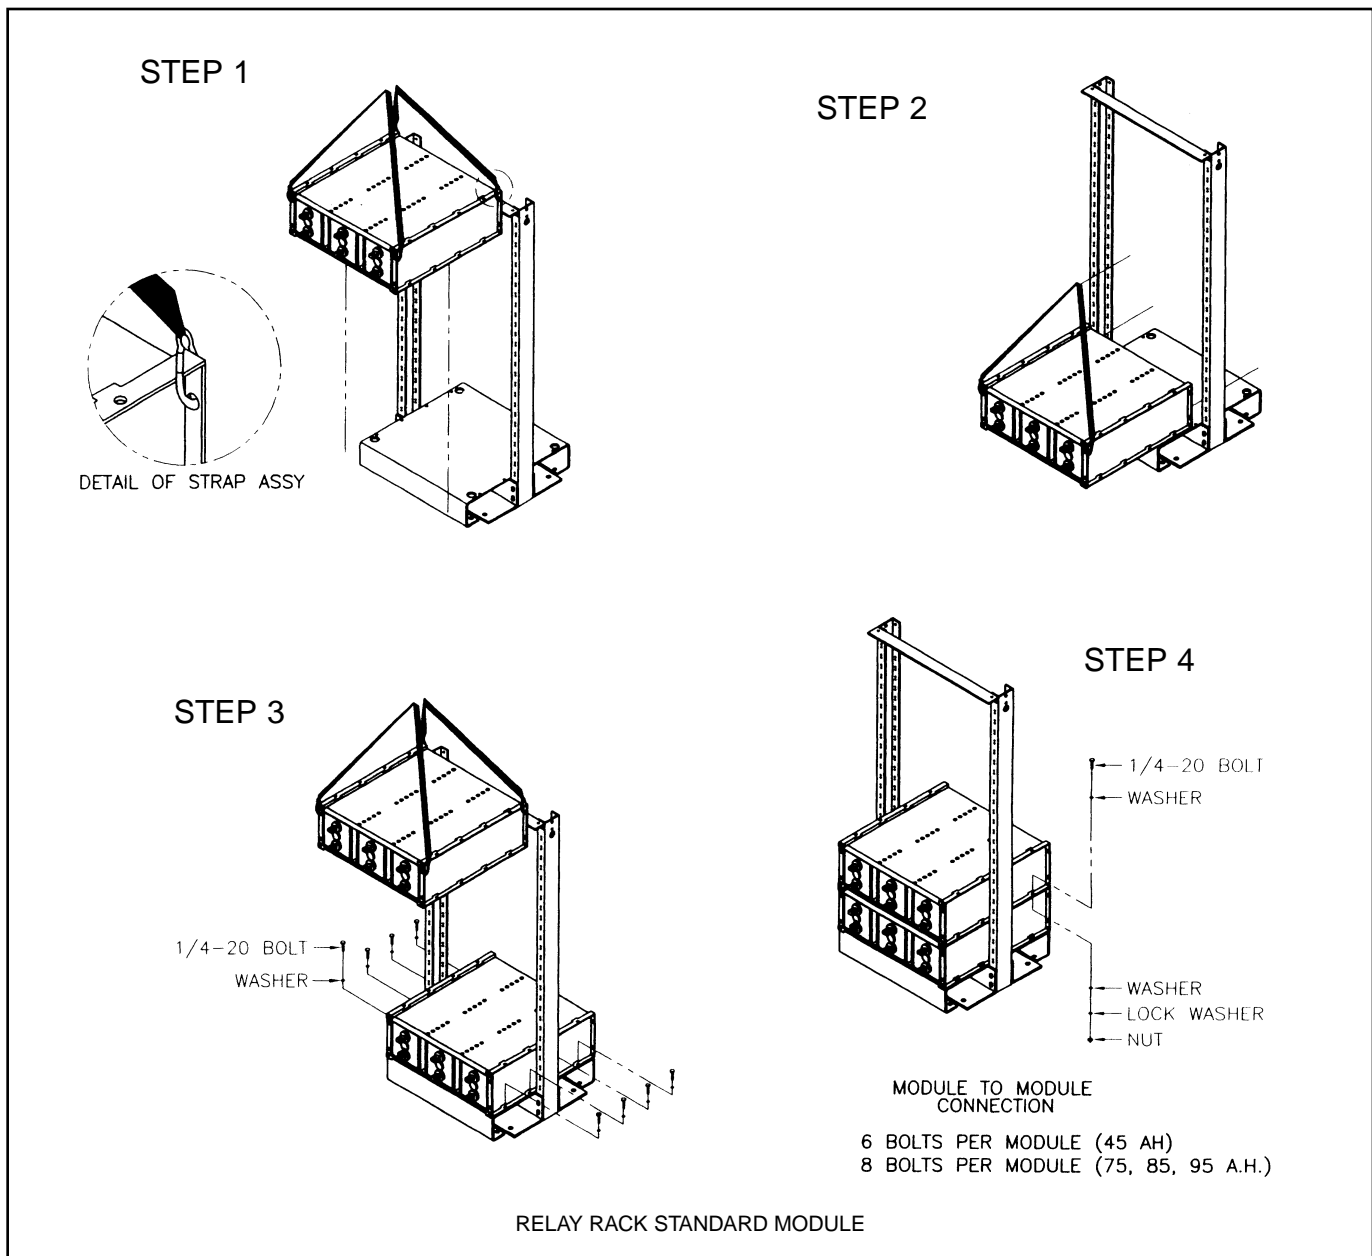

Fig. 29
1. Attach the floor mounting brackets to the frame upright. (Refer to Fig. 29, pg. 16 for relay rack assembly.)
module base support. (Refer to Fig. 29, pg. 16, Steps 1 and 2.) **CAUTION: Never lift more than one module at a time with the lifting slings.**
4. Remove the next module and bolt it to the first module. Repeat this procedure until the battery is installed to its proper configuration. (Refer to Fig. 29, pg.16, Steps 3 and 4.)